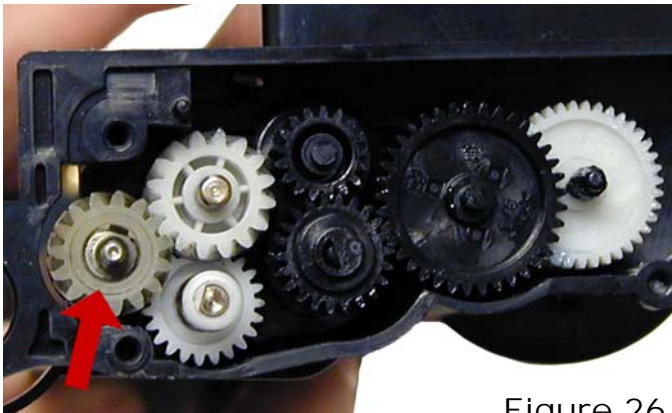

Figure 29
26) Slide the drum axle out from the side opposite the E-ring. See **Figures 29**